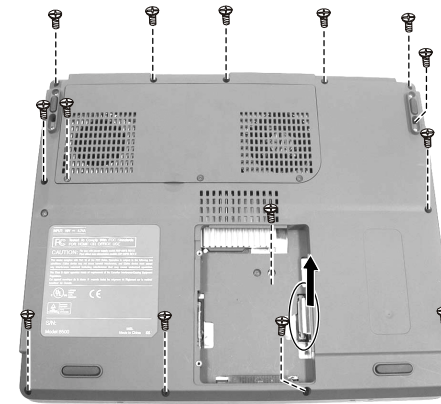

Figure 2-14 Remove the housing
3. Put it upside down . Remove fourteen screws on the bottom of the notebook and disconnect one cable. Then separate the housing with FDD module. (Figure 2-14)